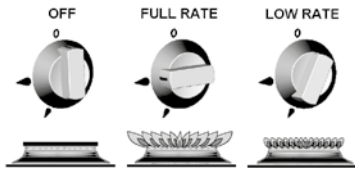

Fig. 1
3. To light: Push in the control knob and turn to full rate – see Fig.1. Hold a lighted match or taper to the burner and push the control knob in and hold. It is necessary to hold
2. To light: Open door, push in the control knob and turn to full rate – see Fig 1 (page 159). Hold a lighted match or taper to the burner and push the control knob in and hold. The burner should ignite and the control knob should be held in for 10 -15 seconds before release.